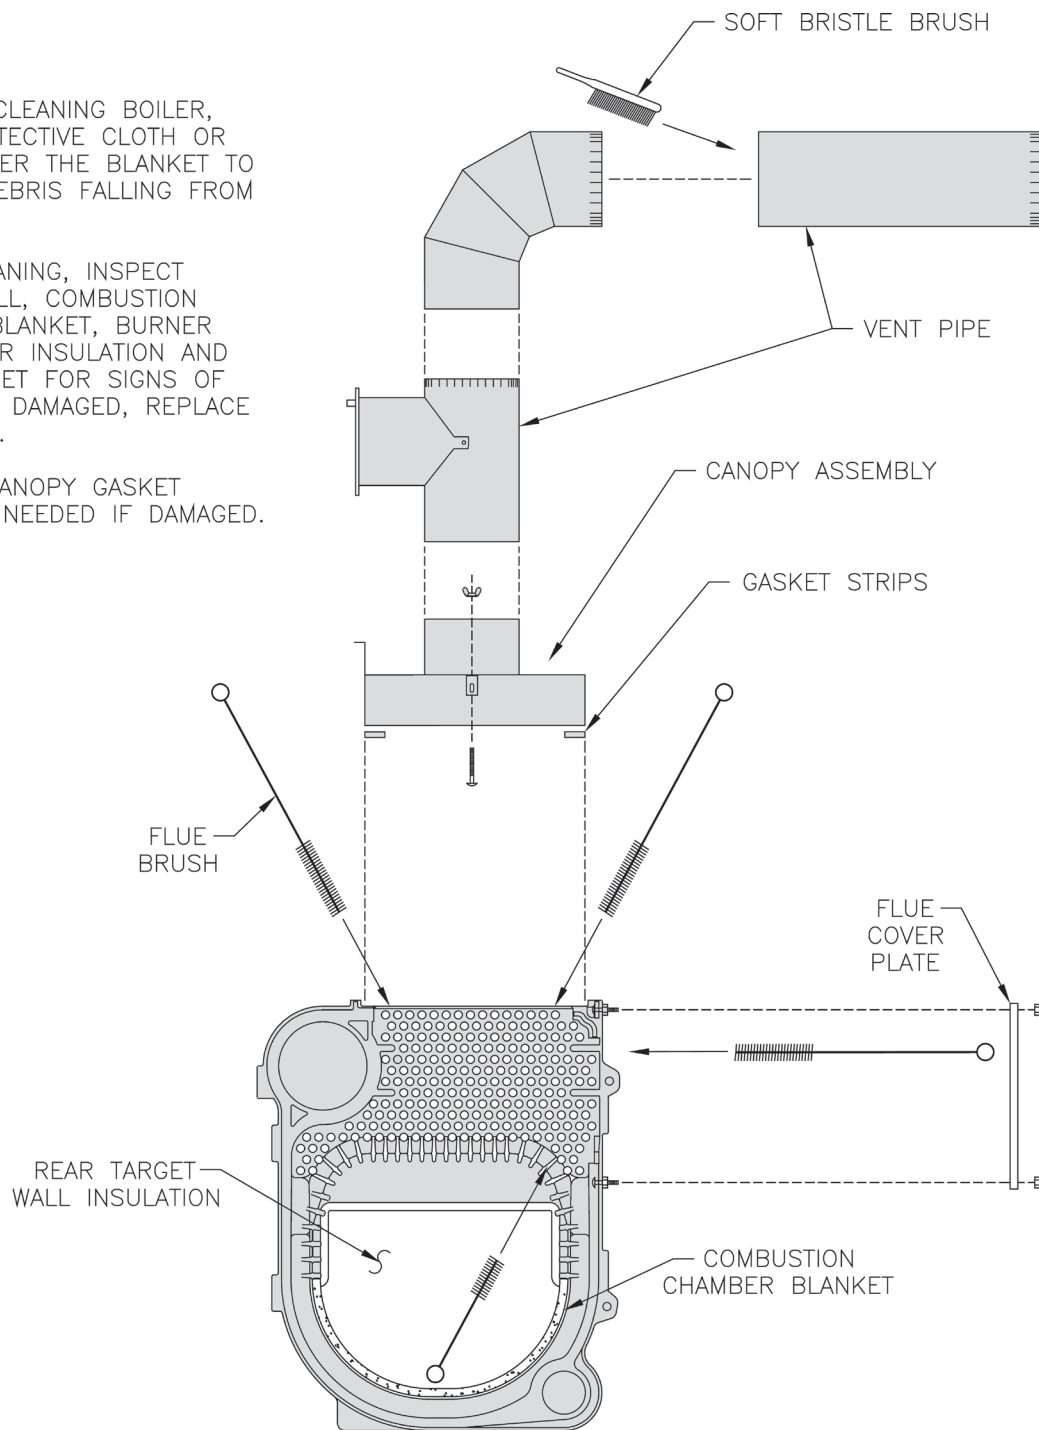

Figure 27: Cleaning of Boiler Flueways
A. CLEAN THE FLUEWAYS (See Figure 27).
1. For access to combustion chamber remove two (2) 5/16" - 18 cap screws, one on the right (1¼" long) and one on the left (3¼" long). If boiler is equipped with flexible fuel line(s), swing door open.